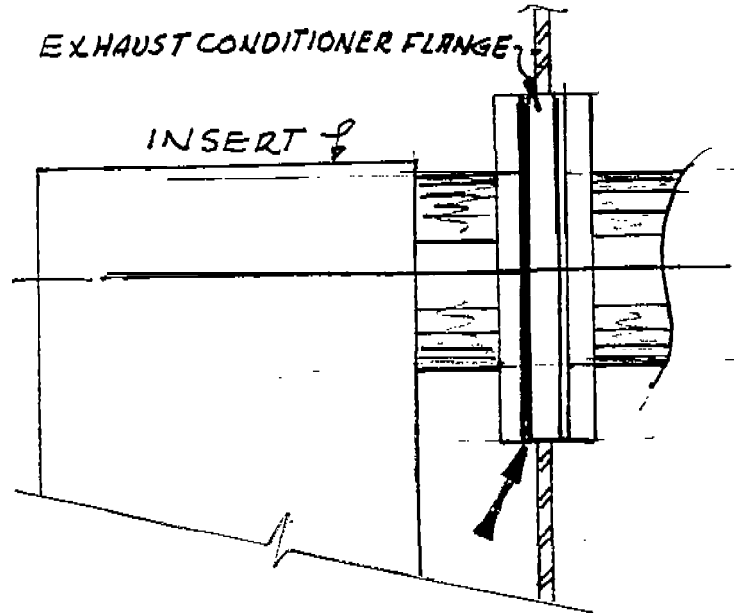

Figure 11. Showing Gasket Between Exhaust Conditioner Flange and Scrubber Insert Flange.
20. () A bronze gasket is installed between the flange of the exhaust conditioner and the flange of the scrubber insert as shown in Figure 11.